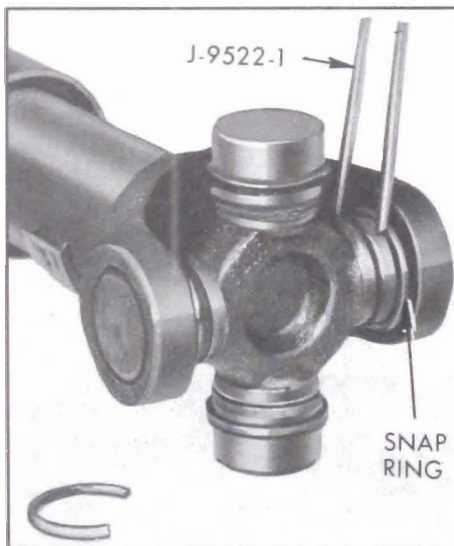

Figure 6-61—Removing Snap Rings From Propeller Shaft
1. Remove snap rings from the bearings. The snap rings are on the inside of the yoke and can be removed with the aid of Tool J-9522-1. See Figure 6-61.